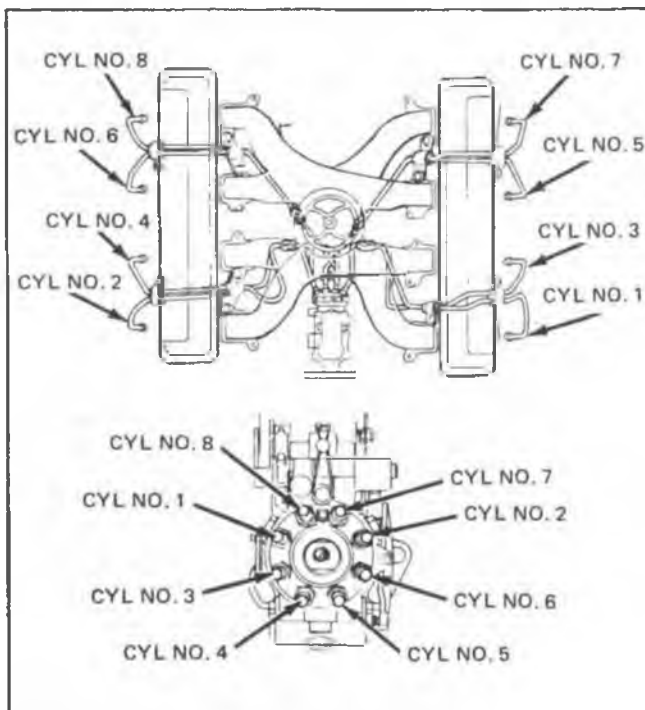

Fig. 5-1 Fuel Line Routing
1. Install injection lines as shown in Figure 5-1.